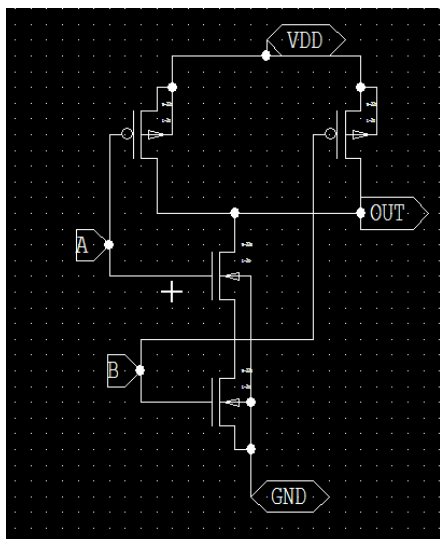

Figure 1
The experiment is to design a 2-input CMOS NAND gate based on the CMOS inverter and study its characteristics. Using the properties of the inverter we are able to create a network of NMOS and PMOS transistors to create logic [Figure 1]. This allows the creation of any of the logic gates, to illustrate we build a NAND gate. This gate is an important one because this is a universal gate, meaning we can create any logic function using only this gate. Its logic function is  $\overline{A \cdot B}$ , which is what the design must satisfy [Table 1].
- Design a static 2 input CMOS NAND gate on S-edit as shown in figure 1, then generate the netlist on T-SPICE.
- Then it had to be tested for the logic functionality of the design so it satisfies the NAND gate properties. (We have two inputs use two input pulse waves see figure 1 and the following paragraph will illustrate more).